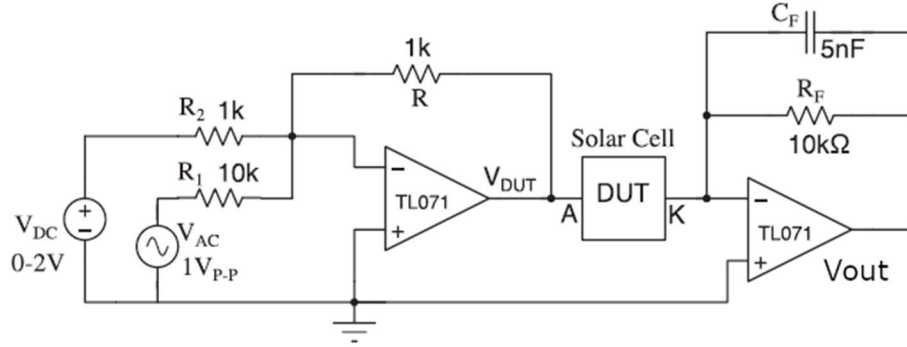

Fig.1 Circuit for CV data, where A is anode and K is cathode of solar cell(DUT)
The capacitance of the solar cell (Device under test, DUT) depends strongly on the applied DC voltage. Since the experiment involves measurement of the C-V profile of the capacitor, the circuit must also be designed to apply an additional DC voltage across the capacitor (solar cell) that can be varied, while measuring the AC current to extract the capacitance. In our setup, we apply a variable DC bias and a small AC signal (small enough not to perturb DC bias and not affect the charge polarization due to the DC bias) to the DUT. This is accomplished by using a basic inverting summing amplifier that adds the variable DC voltage (with unity gain R/R_2) and the small signal AC voltage (with attenuation factor $1/10 = R/R_1$), the output voltage of which is then connected to the DUT. The voltage V_{DUT} in Fig. 1 is thus given by the following equation:
3. Make the circuit as shown in Fig.1.